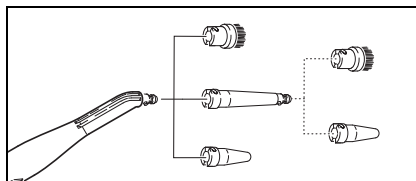

Figure 8
- The detail nozzle (D1) may also be used with the extension piece (D2), the round brush (D3), or the power nozzle (D4) (see Fig. 8). To do so, put the two grooves of the attachments on the locks